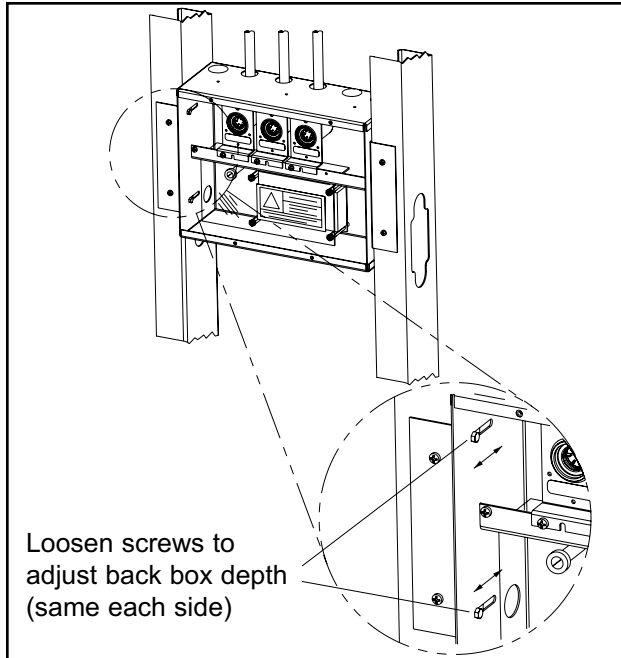

Figure 7: Mounting Bracket Adjustment
3. Mounting brackets on each side of back box are adjustable and factory preset for 5/8" thick drywall. After drywall installation, front edge of back box should be flush with finished surface of wall. If needed, make any necessary bracket adjustments at this time. Refer to Figure 7.